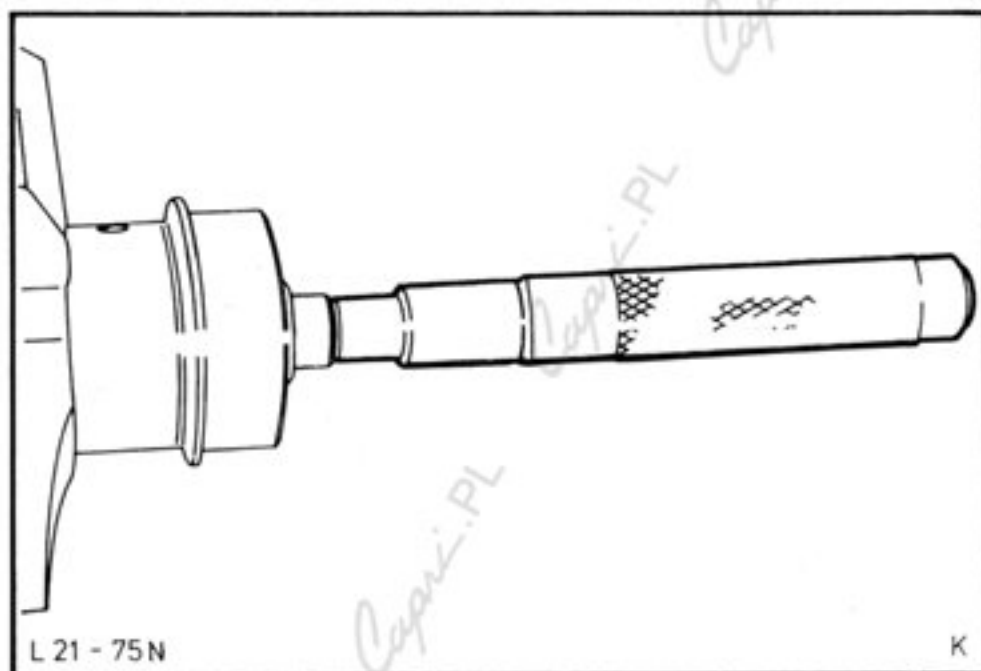

Fig.49. Fitting crankshaft pilot bearing using Special Tool 21-067-A.
34. Press new pilot bearing into crankshaft, using Special Tool 21-067-A, Fig.49. Place timing gear in position and pull on with the belt pulley.